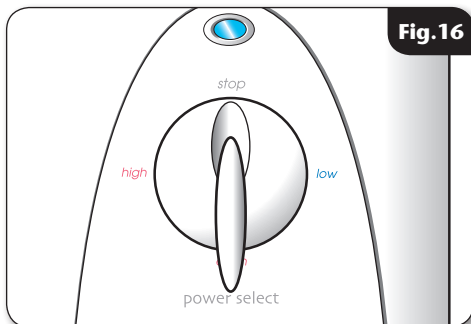

Fig.16
- Before turning on the electric and mains water supplies to the shower, make sure that the power selector is at the **'STOP'** position (**fig.16**).